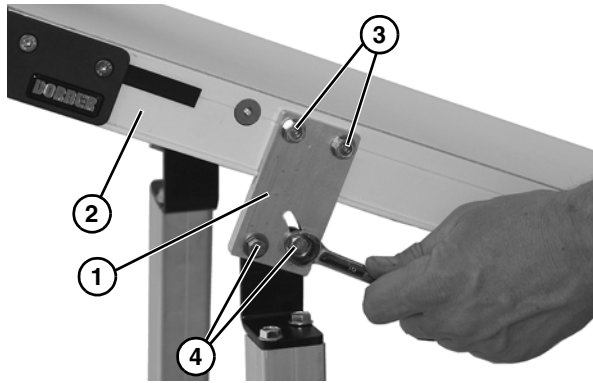

Figure 4
3. Attach the bracket (**Figure 4, item 1**) to the conveyor (**Figure 4, item 2**) and tighten the four bolts (**Figure 4, item 3**). For 2300 and 5300 series conveyors see “Proper Methods of Attachment to Side Rails” on page 6.
Failure to secure screws (**Figure 4, item 4**) may cause conveyor sections to drop down causing severe injury.
TIGHTEN SCREWS (Figure 4, item 4**) AFTER ADJUSTMENT.**
4. Adjust the bracket angle on the slotted brackets (**Figure 4, item 1**) to match the conveyor angle until the legs are vertical and tighten the bolts (**Figure 4, item 4**).